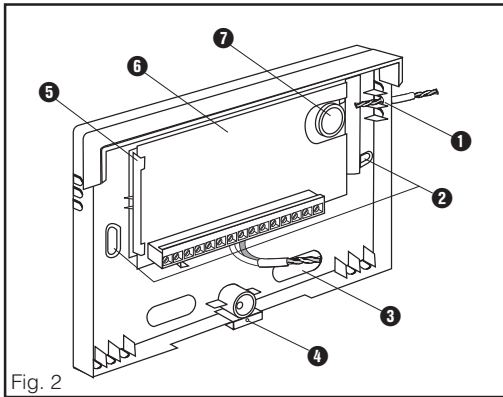

Fig. 2
3.2 Product overview (fig. 2)
- 3 - Use eye (fig. 2 ④) for sealing.